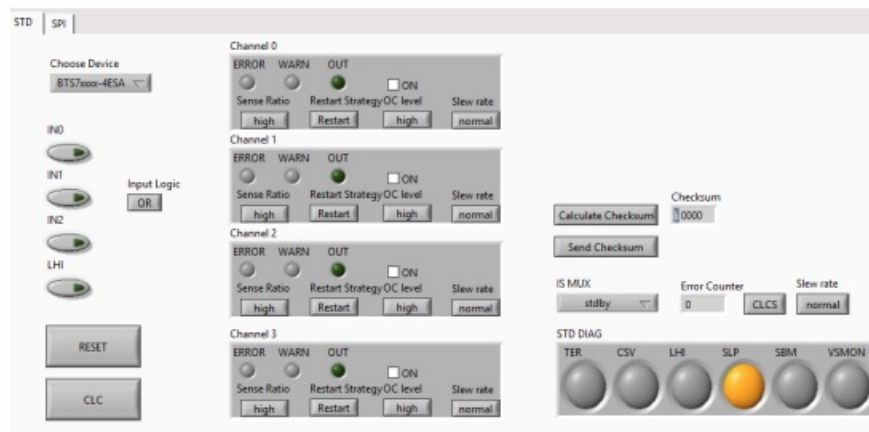
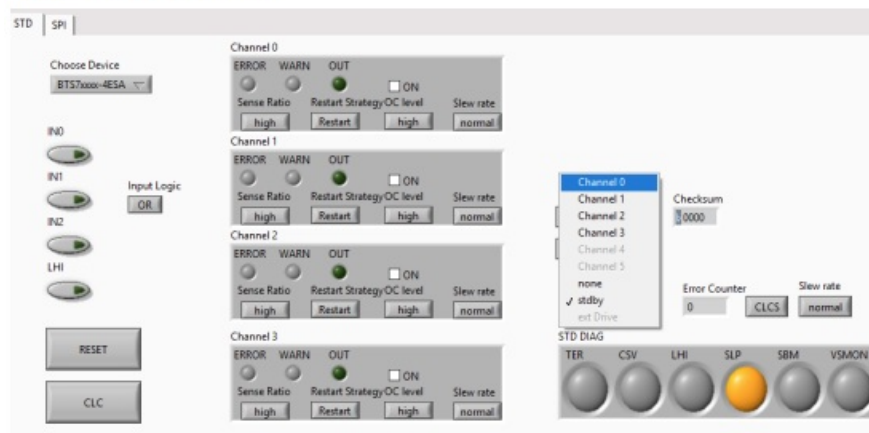

Figure 27 - switch to STD view
Figure 28 - Select channel at IS MUX
- Switch to STD view (See Figure 27) and select a channel (0 – 3) at IS MUX (See Figure 28)